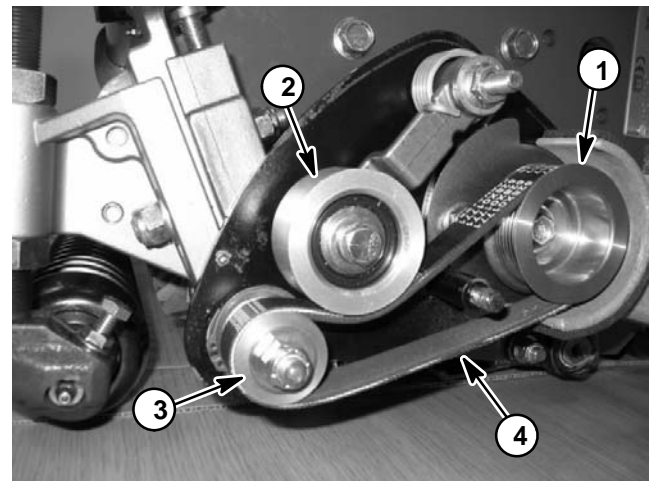

Figure 3
3. Lift idler pulley to relax belt tension. Slip groomer drive belt off pulleys (Fig. 3). Carefully release idler pulley.
4. Install new drive belt to drive pulley, idler pulley and driven pulley observing correct belt routing (Fig. 3). Make sure that idler pulley is above groomer drive belt after belt installation.
5. Install belt cover and secure with two (2) flange nuts.